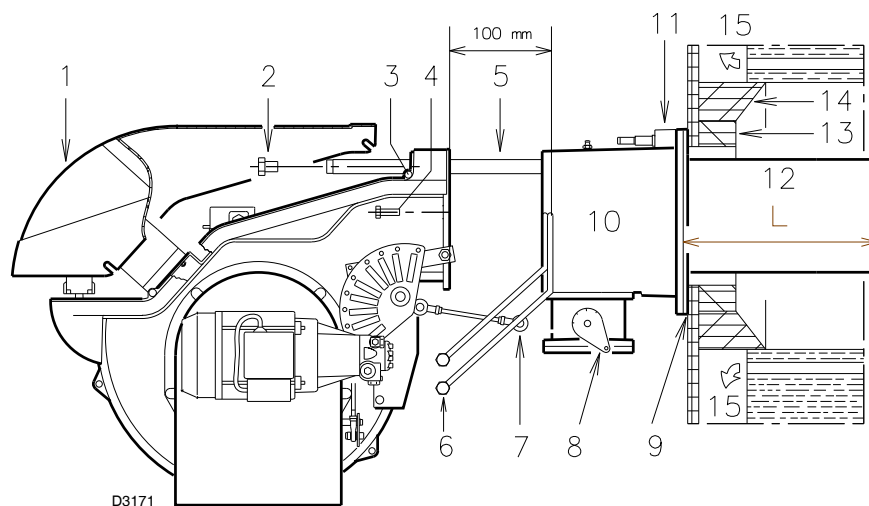
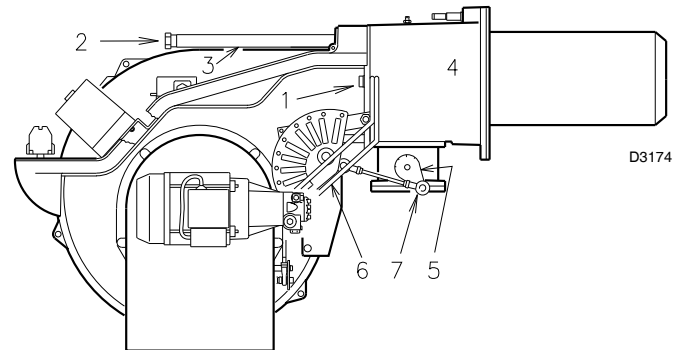

Fig. 10
Fig. 15
For boilers with front flue passes 15)(Fig. 10) or flame inversion chambers, protective fettling in refractory material 13) must be inserted between the boiler fettling 14) and the blast tube 12).
For boilers having a water-cooled front the refractory fettling 13)-14)(Fig. 10) is not required unless it is expressly requested by the boiler manufacturer.
- disconnect the hoses by unscrewing the two connectors 6)(Fig. 10).
- Refit the burner to the slide bars 3)(Fig. 15) at approximately 100 mm from the sleeve 4) - burner positioned as shown in Fig. 10 at page 15.
- Insert the ignition electrode cables and then slide the burner up to the sleeve so that it is positioned as shown in Fig. 15.
- Connect the oil pipes again by screwing on the two connectors 6)(Fig. 10 at page 15).